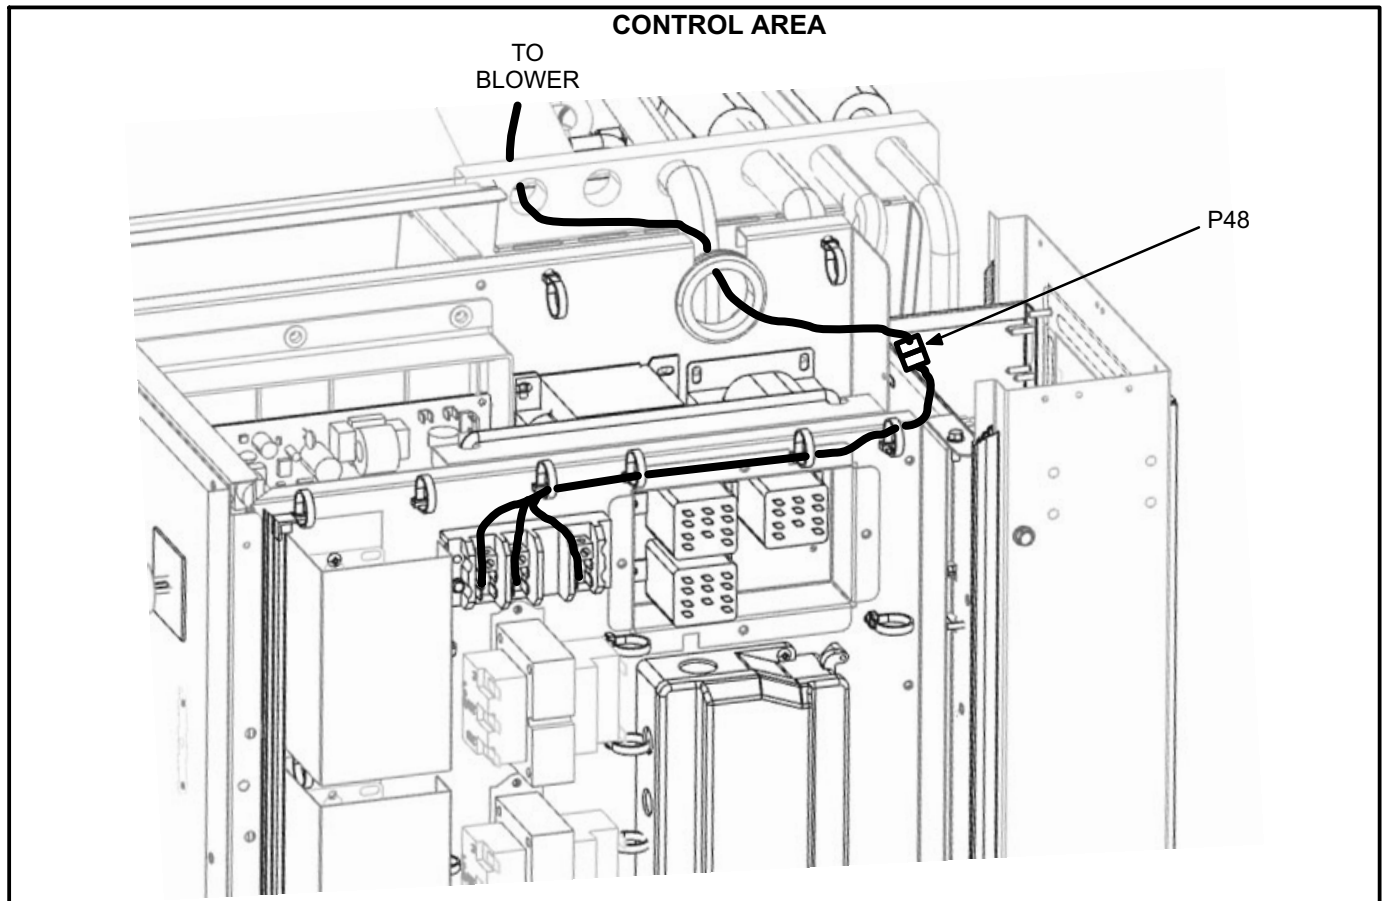

FIGURE 4
- 4- Disconnect P48 in the controls area. See figure 4.